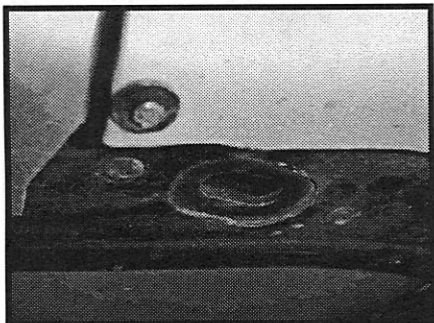

Figure 2
2. Using floor jack or lift, raise passenger front side of vehicle. Use extreme caution, only jack using factory recommendations and using factory jack points (see Fig. 2). If you have any questions, please consult your owner's manual for correct jacking procedure. **MAKE SURE VEHICLE IS PROPERLY SECURED WITH JACK STANDS BEFORE PROCEEDING ANY FURTHER.**